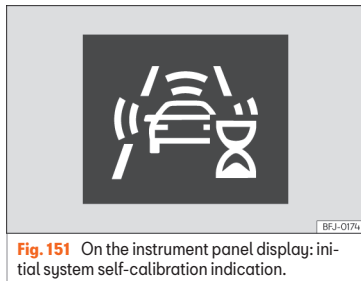

Fig. 151 On the instrument panel display: initial system self-calibration indication.
- In the first few instants of driving after switching on the ignition, due to the system's initial auto-calibration. During this period, a status icon >>> **Fig. 151** is displayed.